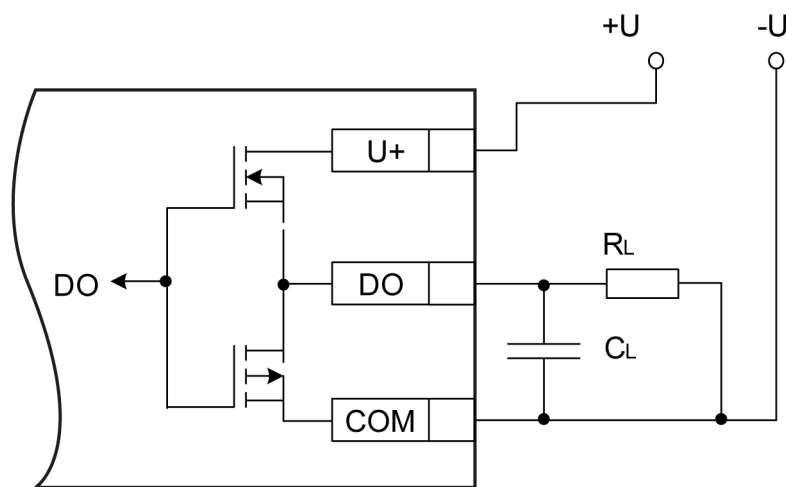

Fig. 5.3 Load connection in the push-pull output mode
- push-pull output (Figure 5.3), for switching loads with a higher capacity and lower current.